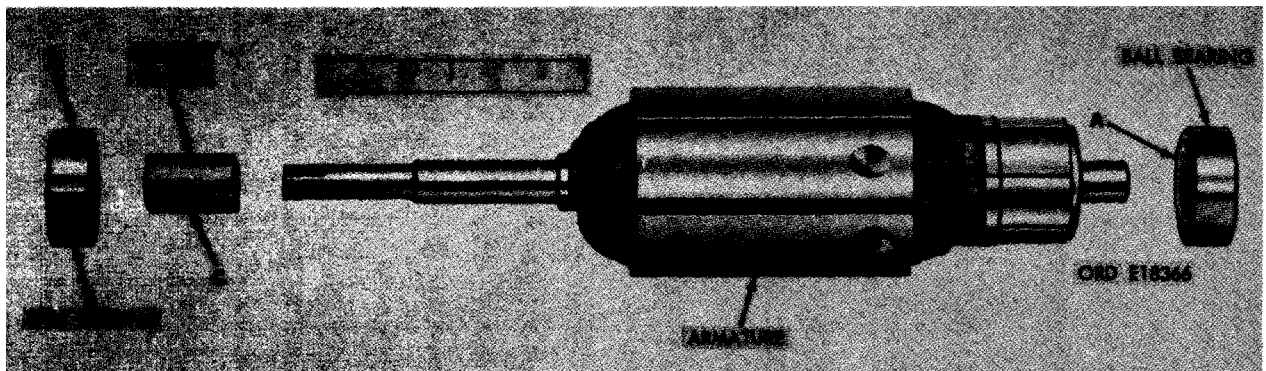

FIGURE 439. REMOVING OR INSTALLING ARMATURE BALL BEARINGS.
- (b) Remove ball bearings as follows. Figure 439. (A) Remove front ball bearing using a suitable bearing puller. (B) Remove rear ball bearing using a suitable bearing puller. (C) Remove rear ball bearing spacer.
- (3) Ball bearings. Inspect the ball bearing (CC) on each end of armature shaft for roughness or uneven rolling action. When ball bearings are unserviceable, replace both ball bearings (fig. 439).